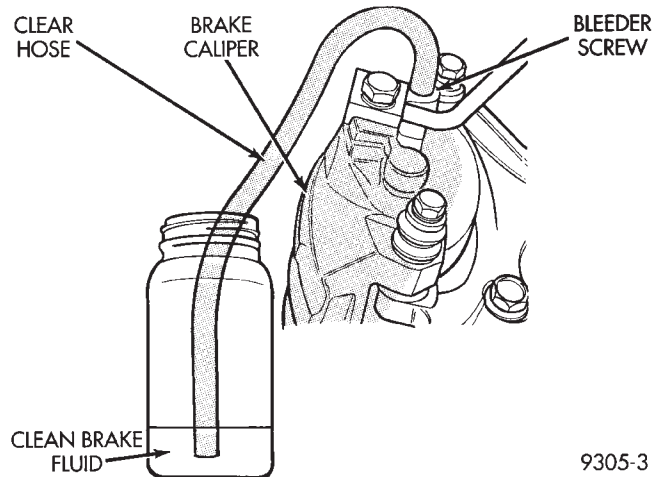

Fig. 21 Proper Method for Purging Air From Brake System
(1) Remove rubber dust caps from all 4 bleeder screws.
(2) Attach a clear hose to the bleeder screw at one wheel and feed the hose into a clear jar containing fresh brake fluid (Fig. 21).
(3) Open bleeder screw (Fig. 21) on caliper assembly or wheel cylinder, at least **one full turn** or more to obtain an adequate flow of brake fluid.
(4) After 4 to 8 ounces of brake fluid has been bled through an individual wheel's brake hydraulic system. And an air-free flow (no bubbles) is maintained in the clear plastic hose and jar, this will indicate a good bleed of this individual hydraulic circuit.
(5) Repeat the procedure at all the other remaining bleeder screws. Then check the pedal for travel. If pedal travel is excessive or has not been improved.
(1) Remove rubber duct caps from all 4 bleeder screws.
(3) Pump the brake pedal three or four times and hold it down before the bleeder screw is opened.
(4) Then, while the pedal is being held down, open the bleeder screw at least 1 full turn. When the bleeder screw opens the brake pedal will drop all the way to the floor.
(5) Release the brake pedal only **after** the bleeder screw is closed.
(6) Repeat steps 1 through 5, four or five times at each bleeder screw. This should pass a sufficient amount of fluid to expel all the trapped air from the brakes hydraulic system. Be sure to monitor brake fluid level in master cylinder fluid reservoir, to ensure it stays at a proper level. This will ensure air does not reenter brake hydraulic system through master cylinder.
(7) Only after a short stroke and solid brake pedal feel is obtained, test drive vehicle to ensure brakes are operating correctly.
(8) Replace all 4 bleeder screw dust caps.